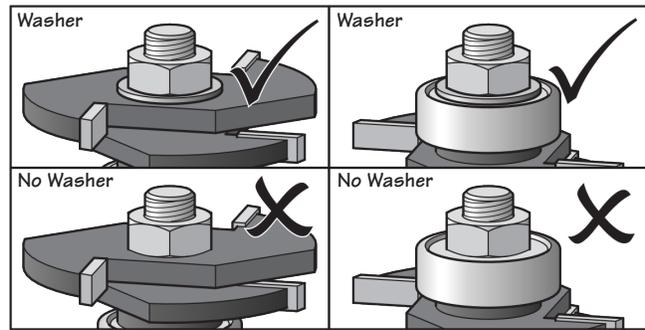

Figure 8: Installing the nut.
4. When installing the nut, always place a steel washer or black spacer underneath, as shown in **Figure 8**. Never tighten the nut directly against a cutter, the bearing or a stainless-steel spacer.